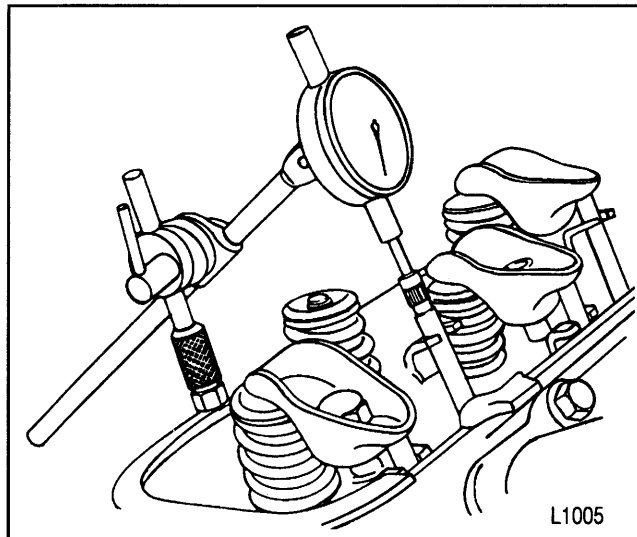

Figure 20—Measuring Camshaft Lobe Lift
2. Position the dial indicator (part of J 8520) so the plunger rests on the pushrod end, as shown in figure 20. Make sure the pushrod is in the lifter socket.